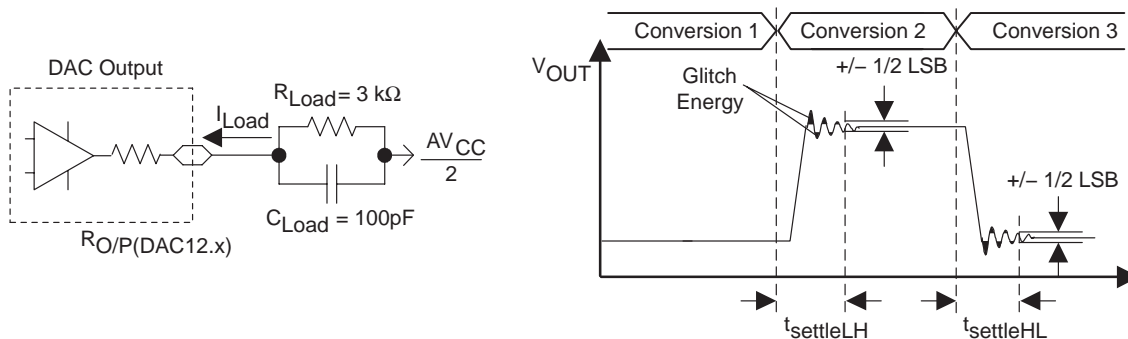
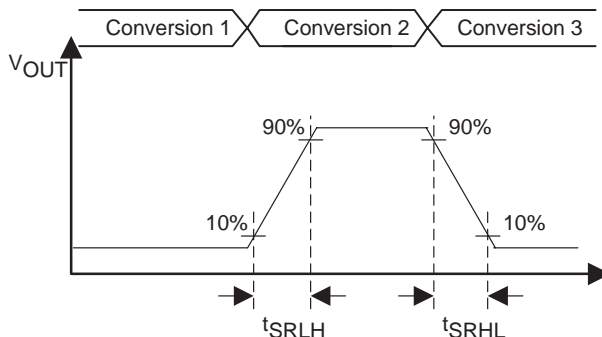

Figure 23. Settling Time and Glitch Energy Testing
Figure 24. Slew Rate Testing
12-bit DAC, dynamic specifications; V_{ref} = V_{CC}, DAC12IR = 1 (see Figure 23 and Figure 24)
| t _{ON} DAC12 on-time | DAC12_xDAT = 800h, Error _{V(O)} < ±0.5 LSB (see Note 1, Figure 23) | DAC12AMPx=0 → {2, 3, 4} | 2.2V/3V | 60 | 120 | μs |
- NOTES: 1. R_{Load} and C_{Load} connected to AV_{SS} (not AV_{CC}/2) in Figure 23.